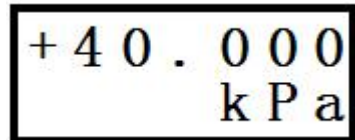

Figure31
6.2 Enter "Confirm" once, and the screen will display URL (40kPa), as shown in Figure31;